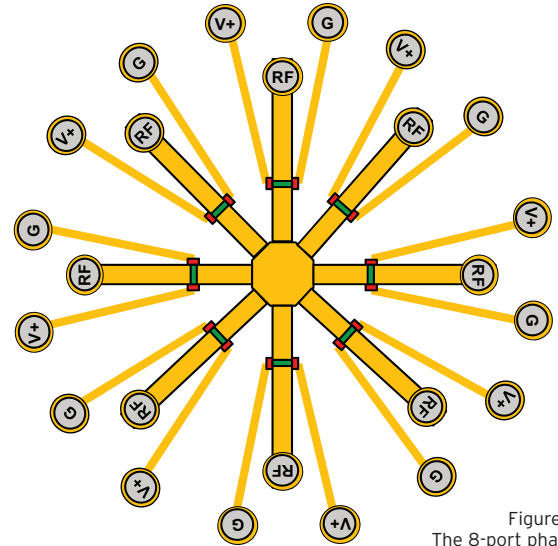

Figure 1:
- Extremely low-loss, high-isolation RF switches using phase change materials (PCM). Multiport RF switch designs (Figure 1) optimize thermal design to improve PCM performance, and integrate arrays of these switches on thermally and electrically optimized substrates.